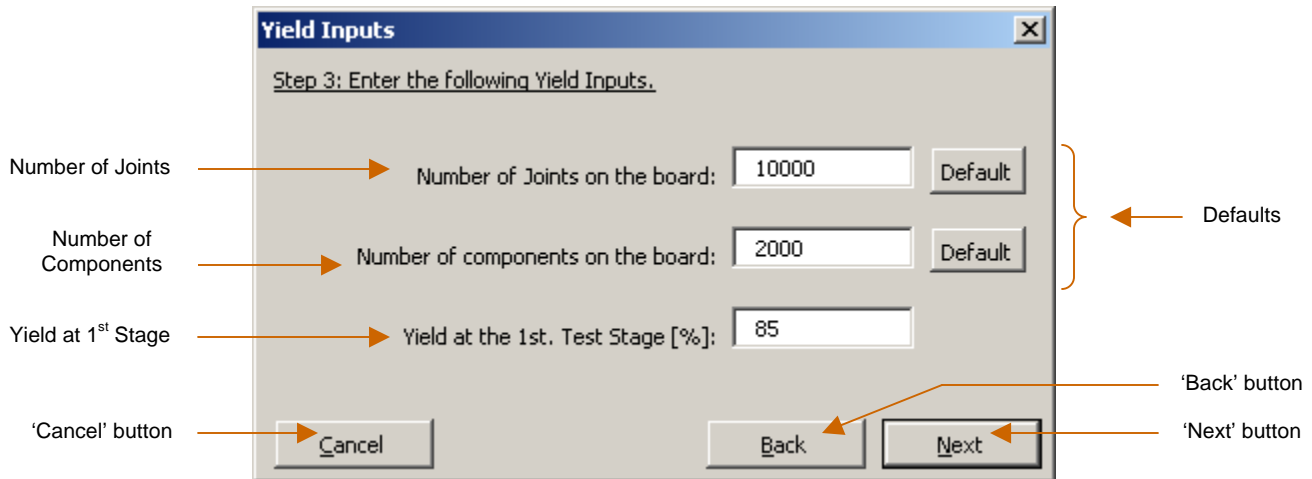

Figure 5. Step 3: Yield Inputs
'Next' button. Once you have complete entering all the inputs of step 2, press the Next button. The window of step 3 (Figure 5) will appear.
A) If you have selected to use yield inputs for the calculations on the model, then on Step 3 (figure 5), you will have to enter yield information of your product (PCA), 3 inputs are required at this step: Number of Joints on the board, Number of components on the board and yield at the first test stage of strategy 1.